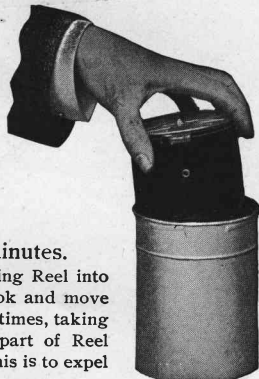

Fig 7.
12. Having filled Solution Cup, as directed on page 11, lower Transferring Reel into Cup, with the end containing crossbar up. (Fig 7.) Let reel slide down slowly. The operation of removing reel from box can be done in the light of an ordinary room, but for safety it is well that the light should not be too bright. The total length of time for development is 20 minutes.